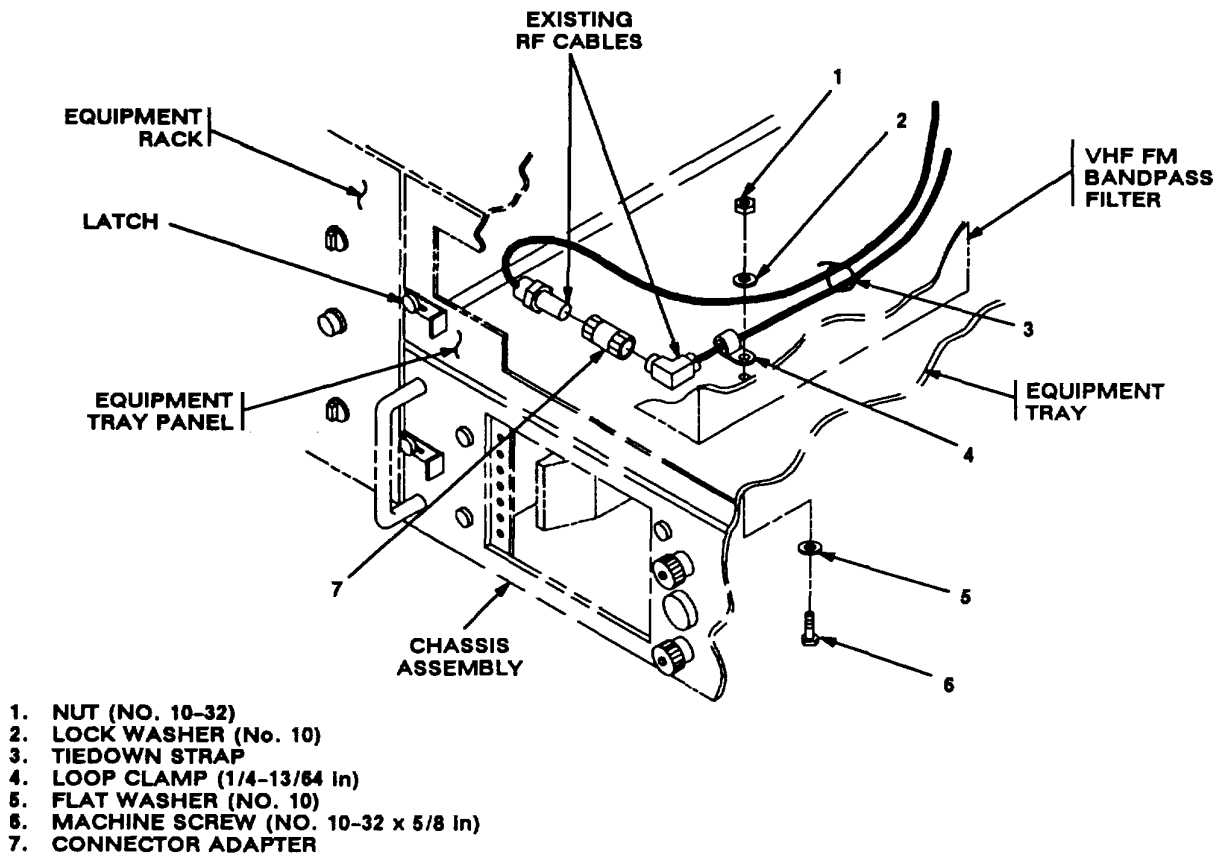

Figure 5-4 (2). Cable Installation: Interior Cabling
J. Tiedown strap (3).	Wrap around existing RF cables and secure. See figure 5-4 (2).